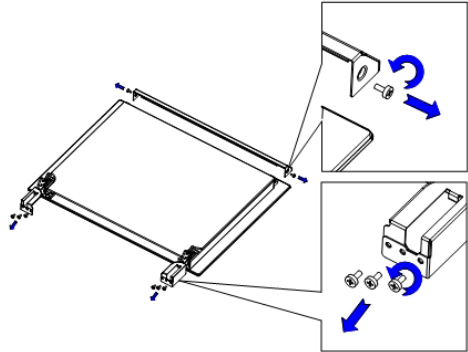

Figure 2
1. Remove the top (shutter) by unscrewing the bolts on both sides (see figure 2).
B. Grill Rack insert location and layer (see figure 2):